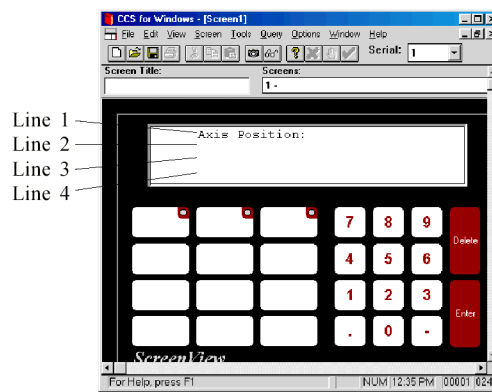

Figure 4.12: Using ScreenView
3. Enter text directly on the screen graphic (see figure 4.12)